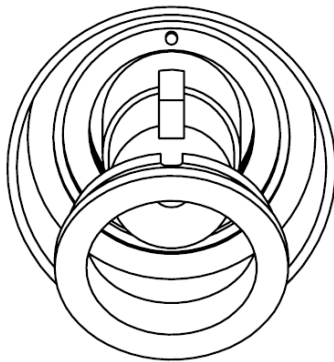

Figure 13
5. Line up the slot on the stationary seal with the keyway of the motor shaft so that the slot on the stationary seal aligns with the pin inside of the pump casing. Figure 13. Carefully slide the stationary seal half over the motor shaft and push the seal into its cavity.